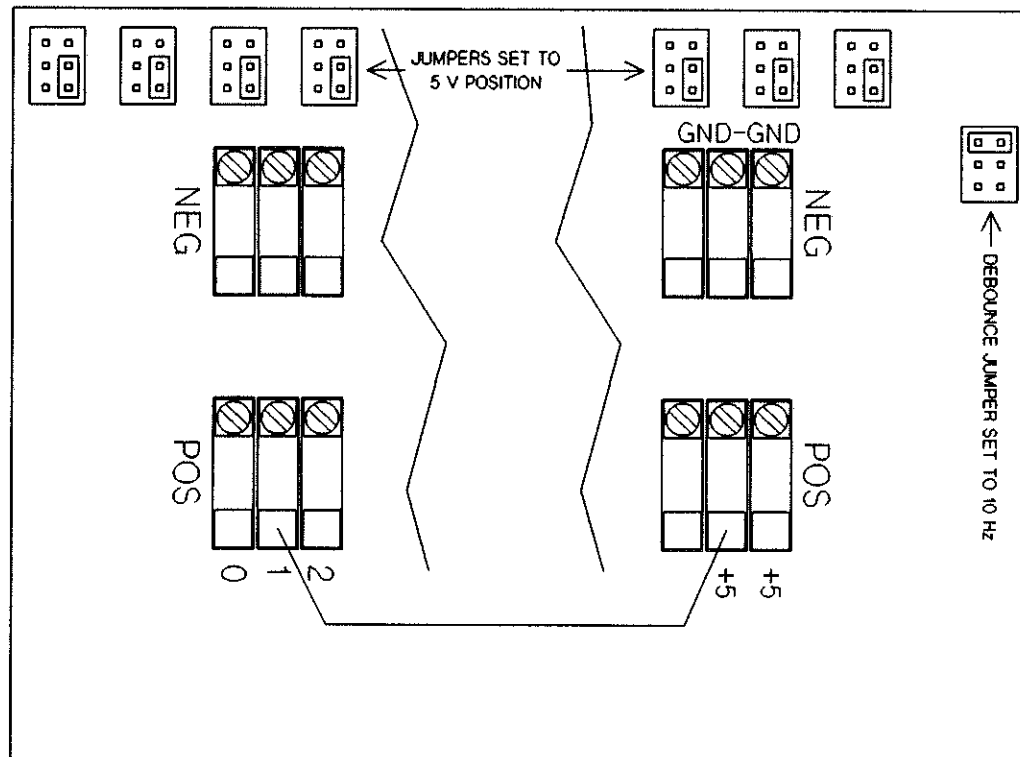

Figure 12-6 Odd Channel Pattern Test
10. Set all odd numbered channel inputs high by installing a jumper between the shorted odd channel POS (positive) connections and the +5 V connection. The connections are in Figure 12-6.